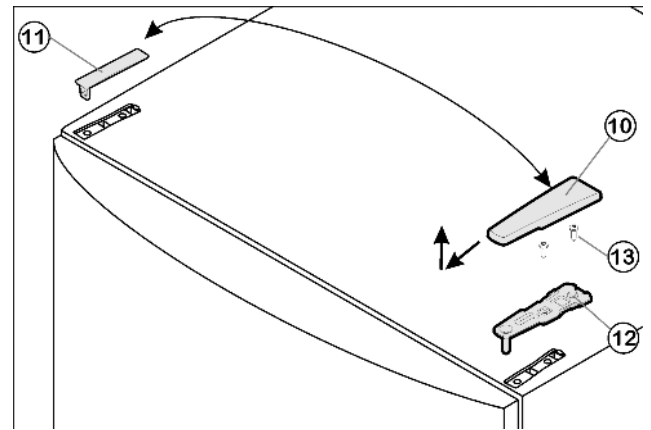

Fig. 4
- ▶ Pull off the cover Fig. 4 (10) forwards and upwards.
- ▶ Lift off the cover Fig. 4 (11).
- ▶ Unscrew the upper turn hinge Fig. 4 (12) (2x Torx® 25) Fig. 4 (13) and lift it off.
- ▶ Insert the upper turn hinge *Fig. 4 (12)* in the door on the new hinge side.
- ▶ Screw the upper turn hinge *Fig. 4 (12)* **firmly** into place (**with 4 Nm**)(2x Torx® 25) *Fig. 4 (13)*. Possibly make preliminary holes with a bradawl or use a cordless screwdriver.
- ▶ Snap the cover *Fig. 4 (10)* and cover *Fig. 4 (11)* into place at the opposite side.